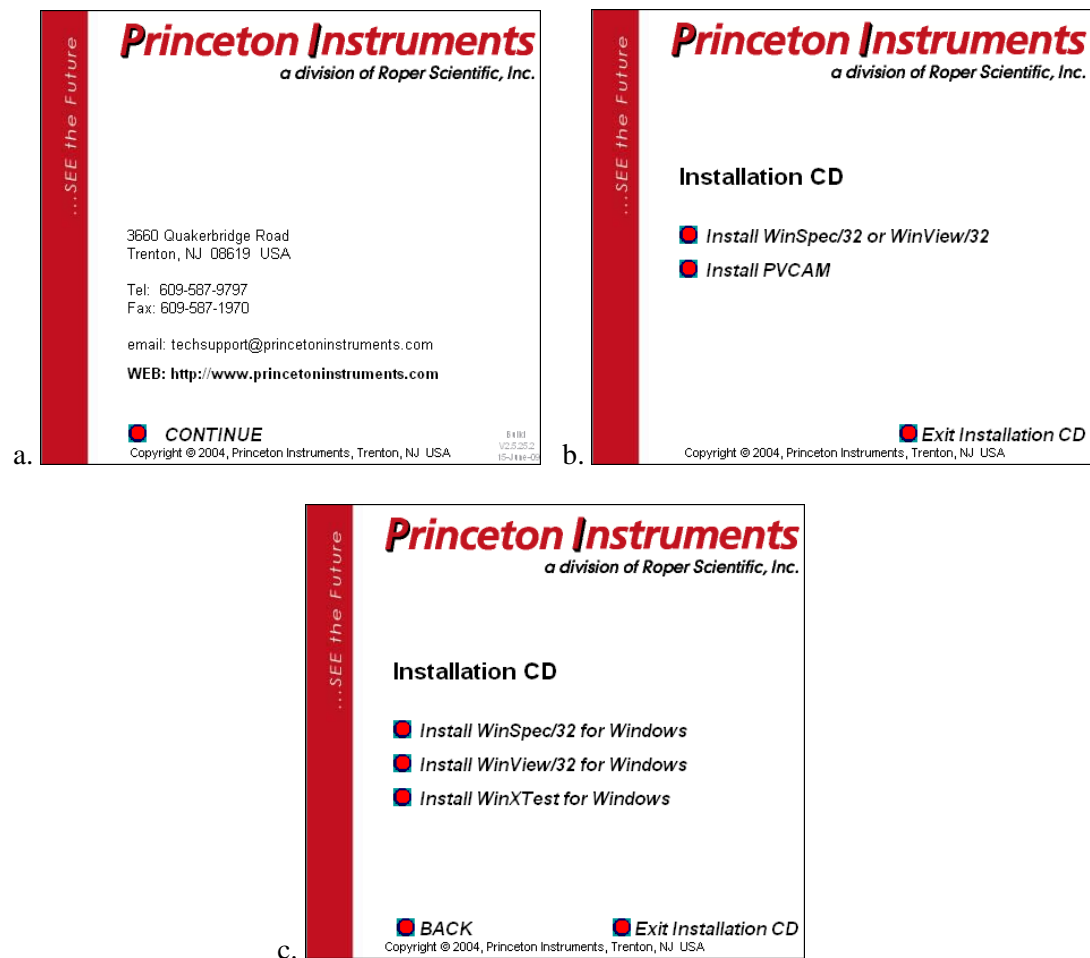

Figure 208. WinSpec, WinView, or WinXTest Selection dialogs
1. Start the installation program, click on **CONTINUE**, click on **Install WinSpec/32 or WinView/32**, and then click on **Install WinSpec/32 for Windows**. Refer to Figure 208 below.